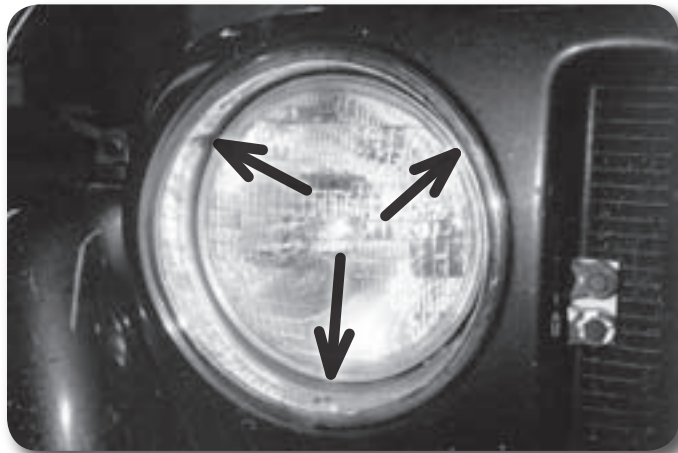

Figure 2
5. Remove the three screws holding the headlight bezels to the core support and remove the bezels from the vehicle (Figure 2). Save bezel and hardware.